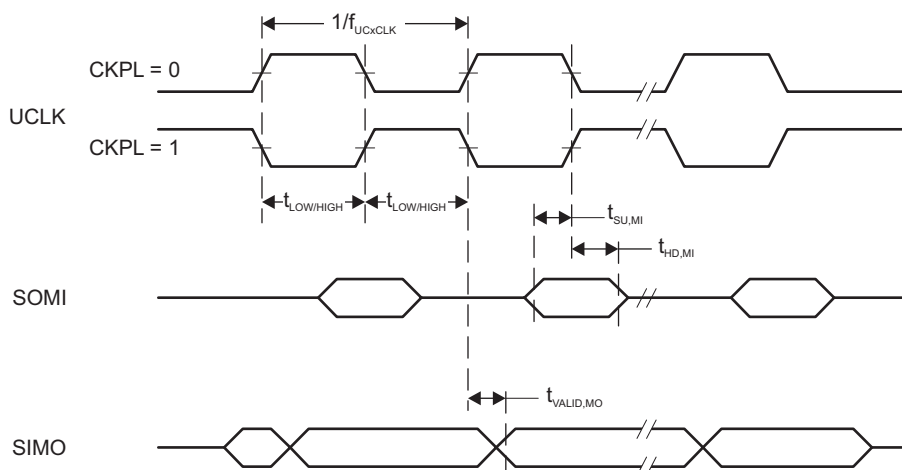
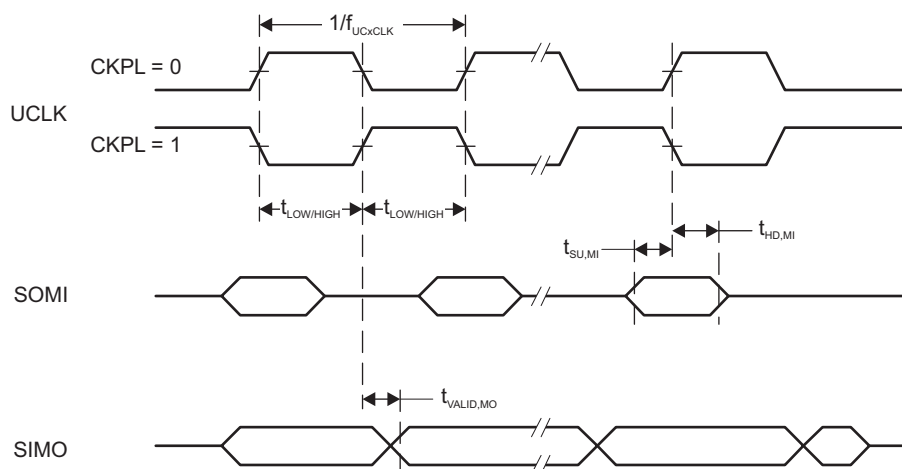

Figure 5-6. SPI Master Mode, CKPH = 0
Figure 5-7. SPI Master Mode, CKPH = 1
(2) Specifies the time to drive the next valid data to the SIMO output after the output changing UCLK clock edge. See the timing diagrams in Figure 5-6 and Figure 5-7.
(3) Specifies how long data on the SIMO output is valid after the output changing UCLK clock edge. Negative values indicate that the data on the SIMO output can become invalid before the output changing clock edge observed on UCLK. See the timing diagrams in Figure 5-6 and Figure 5-7.